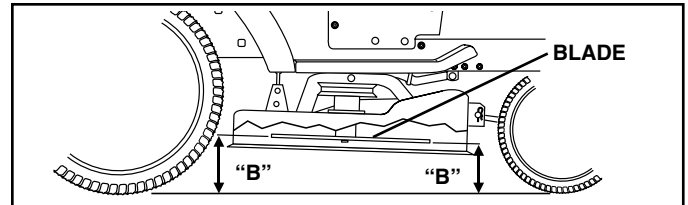

FIG. 21
**FRONT-TO-BACK ADJUSTMENT** (See Figs. 21 and 22)